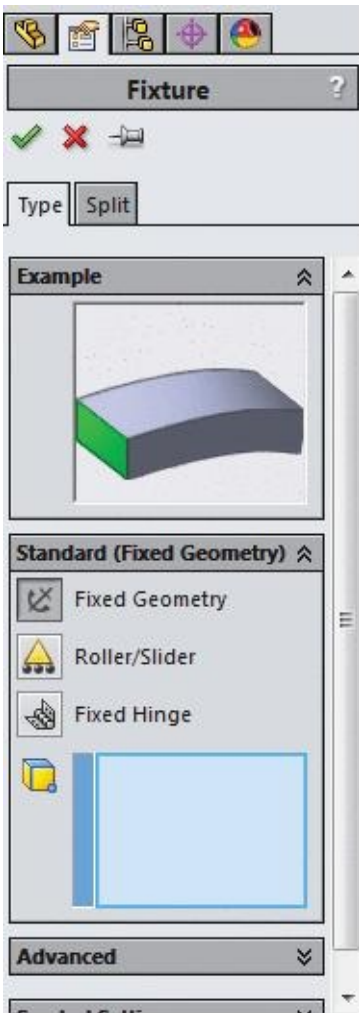

Figure-10. Fixture PropertyManager
- Click on the **Add a fixture** option from the **Simulation Advisor** pane. The **Fixture PropertyManager** will be displayed; refer to Figure-10.
- Click on the **Fixed Geometry** button from the **Fixtures Advisor** drop-down. The **Fixture PropertyManager** will display as shown in Figure-10.